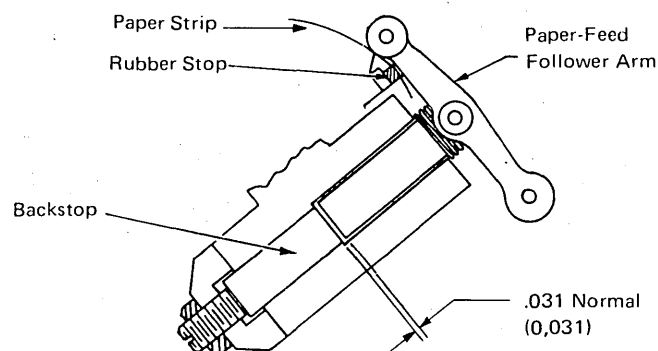

Figure 4-88. Solenoid Air Gap
Adjust the solenoid backstop screw (Figure 4-88) for .031 in. (0,79 mm) nominal air gap between the solenoid plunger and the backstop. To do this:
7. Fit a strip of the paper tape .0028 to .003 in. (0,05 to 0,08 mm) thick between the paper-feed following arm and the rubber stop (Figure 4-88).